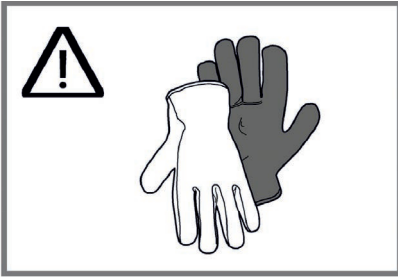

Fig. 14
- Parts inside the appliance may have sharp edges. Use protective gloves (Fig. 14).